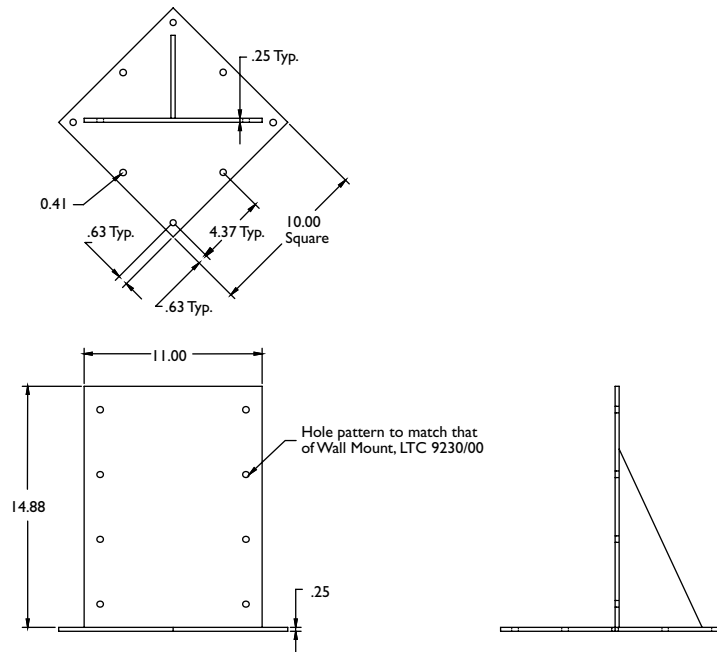

Figure 4. Dimensions LTC 9230/01 Roof Mount
2. Using the Roof Mount as a template, position it in the desired location and mark the hole locations on the roof surface (see **Figure 4**). Use a minimum of six fasteners (one at each corner and two more).
Dimensions: See Figure 4.